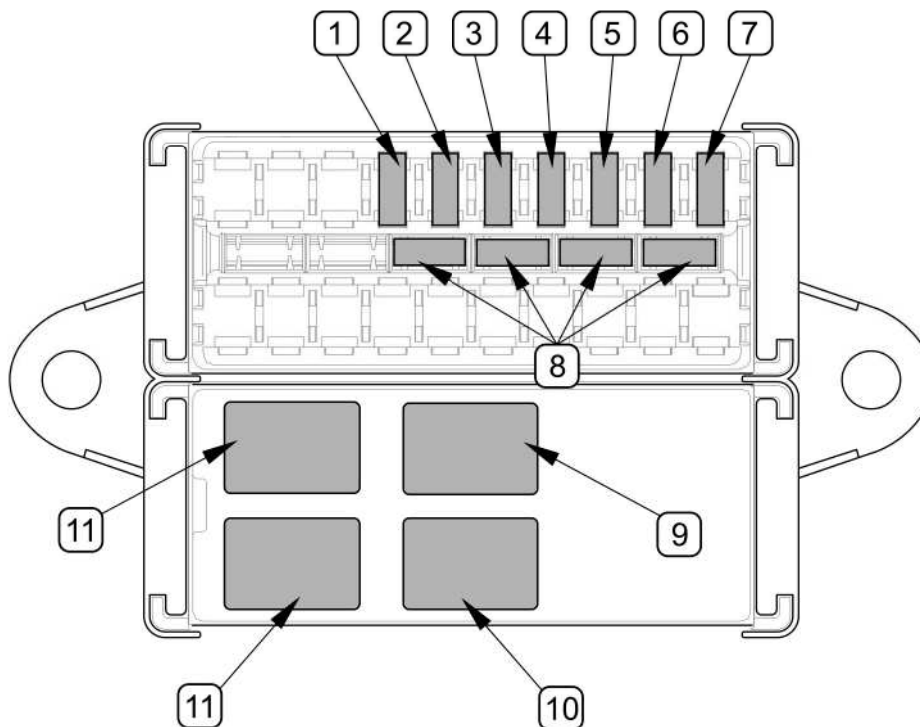

FIG. 5.2 Fuses and relays
In the fuse box, there are four relays (9), (10), (11) (FIG. 5.2) marked with 10/20A 24V symbol, with part number of K2-1103-0011, and MINIVAL fuses (see 0)